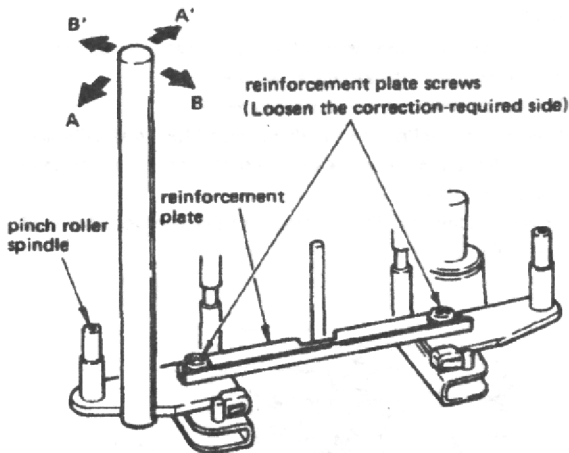

Fig. 2-18 Pinch roller/capstan alignment
If not parallel, loosen the reinforcement plate screw near the correction-required side (Refer to Fig. 2-18), then correct tilt of pinch roller spindle using correction jig. Adjustment can be done by tilting correction jig in direction of arrow A or A'.
5. If needed, adjust by tilting correction jig in direction of arrow B or B' in Fig. 2-18.
4. If a change is found, re-adjust accurately tilt of pinch roller spindle by method illustrated in Fig. 2-18.